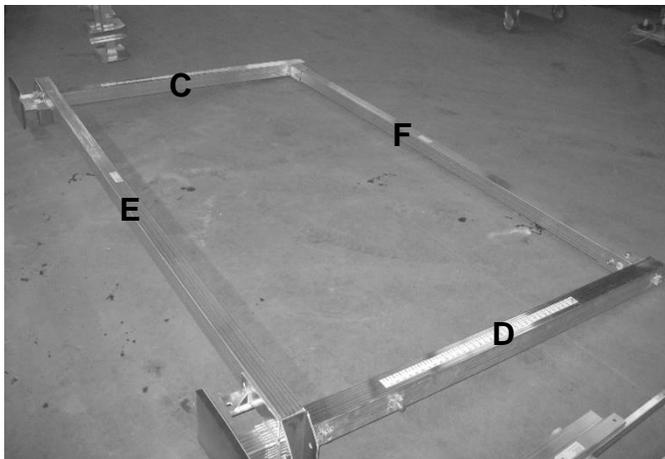
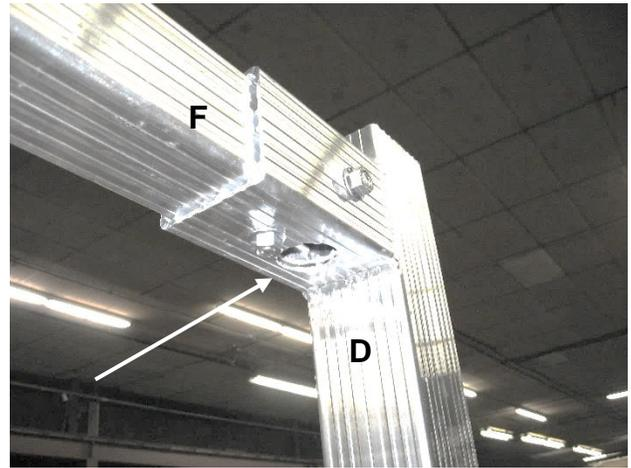
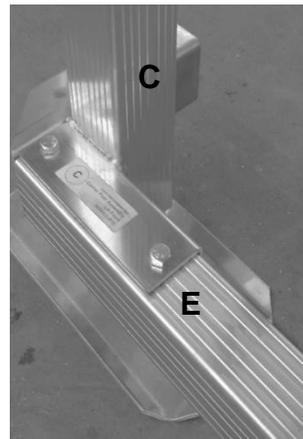

FIG. 13
FIG. 14 – This hole is used for cable attachment found in later step
FIG. 16
2. Connect corner posts **C & D** using two tubes, **E & F**, as shown in FIG. 13. Lay corner posts **C & D** down on ground as shown in FIG. 13. Install top lakeside tube **F** in sleeve pockets first, as shown in FIG. 14 & 15. Make sure that holes in tube **F** line up with holes in sleeve pocket on corner post **C & D**. Secure both ends of tube **F** in sleeve pockets with (1) ½" bolt from Bag #8. Install lakeside bottom tube **E** into channels on bottom of corner post, shown in FIG. 16 & 17, using (4) ½" bolts/nuts from Bag #8.